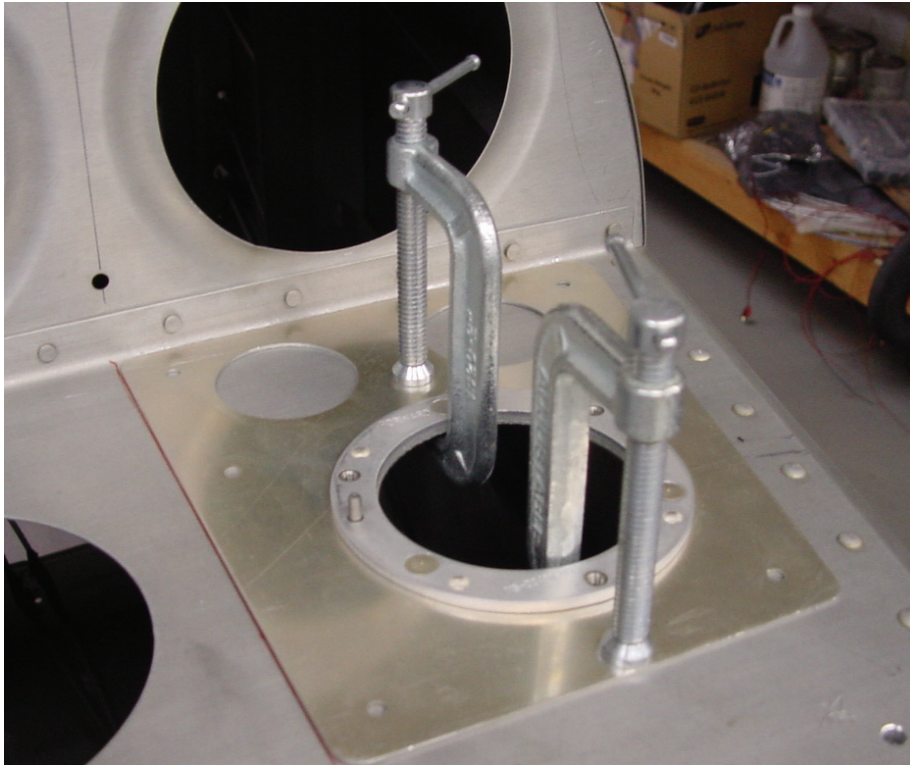

Figure C-2 RV-7/9 GMU 44 Mounting Bracket on the F714 Aft Deck
2. Place the GMU 44 mounting bracket on the F-714 aft deck (see Figure C-2).
3. Slide the GMU 44 mounting bracket forward, ensuring the front edge is against the vertical portion of the F-714 aft deck (see Figure C-2).